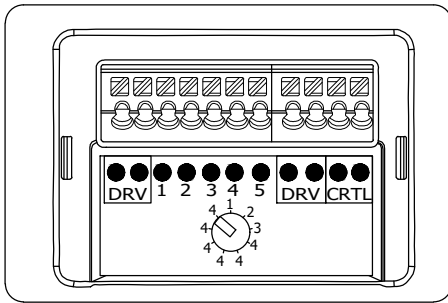

FIGURE 11
3. ESTABLISH THE DESIRED POWER OR LUMEN SETTING BY TURNING THE MODULE SWITCH TO THE POSITION DEFINED BY THE AU/CU POWER LEVEL INCLUDED WITH THE DESIGN PACKAGE. REFER TO THE MANUFACTURER SPECIFICATIONS AND FIELD ADJUSTABLE SETTINGS TABLES INCLUDED WITHIN THIS STANDARD FOR EACH FIXTURE. SEE FIGURE 11, 12, AND 13 ADJUSTMENT SWITCH DETAILS FOR EACH FIXTURE SIZE.